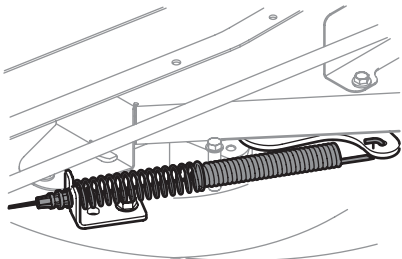

Figure 35
- Carefully remove the PTO cable from the rear of the cutting deck. Remove the spring from the deck idler bracket. (Figure 35).